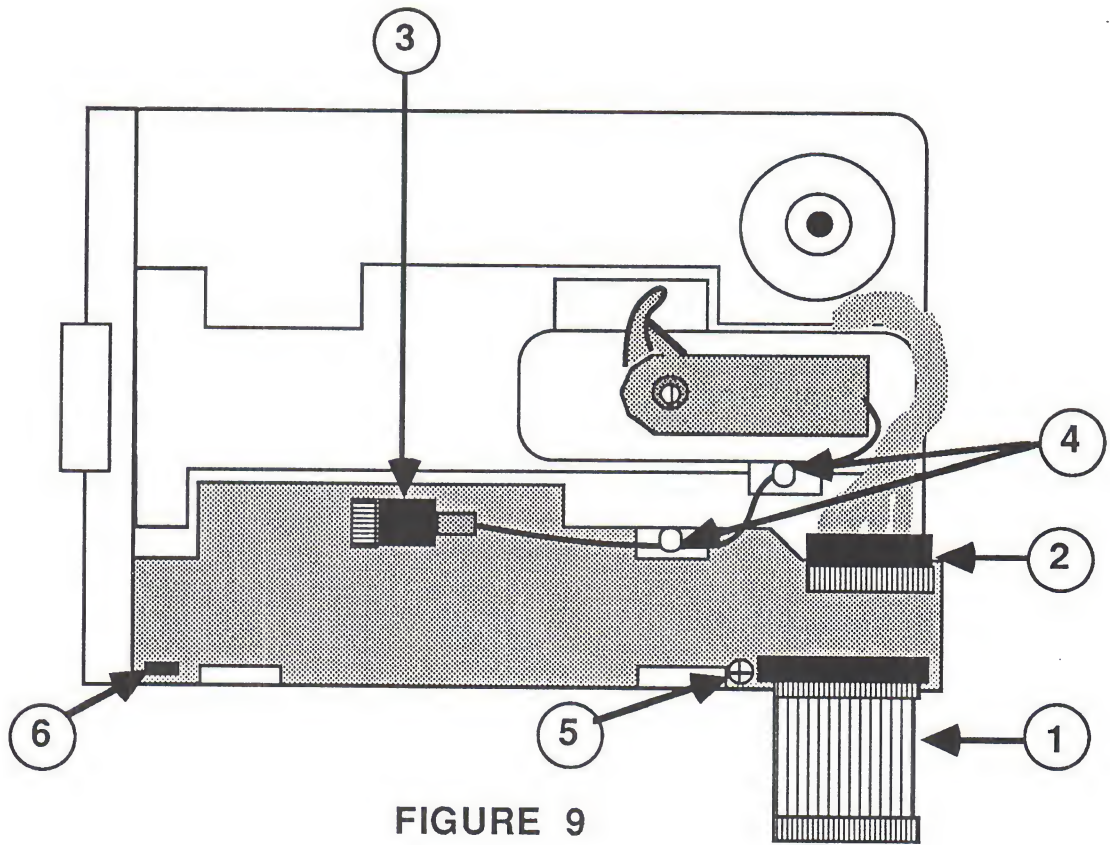

FIGURE 9
2. Remove the cable from the disk drive (see Figure 9, #1).
5. Disconnect the connectors J2 (see Figure 9, #2) and J3 (see Figure 9, #3) from the analog card and carefully remove the wire from the clips (see Figure 9, #4).
6. Remove the Phillips screw that mounts the analog card to the chassis (see Figure 9, #5).
1. Slide the front edge of the card under the two plastic posts located on the inside of the bezel. Lay the card on the chassis so that the alignment tab (Figure 9, #6) protrudes through the hole.
2. Replace the Phillips mounting screw (see Figure 9, #5).
3. Look at the head connector (Figure 9, #3) that attaches to J3 and note that only four wires are connected to the five pin connector. Connect the head connector, making sure that each wire makes contact with a pin on the header.
4. Position the wire and carefully bend the clips (Figure 9, #4) to hold it in place.
5. Connect the motor connector to header J2 (Figure 9, #2) so that the number 10 is on the inside.